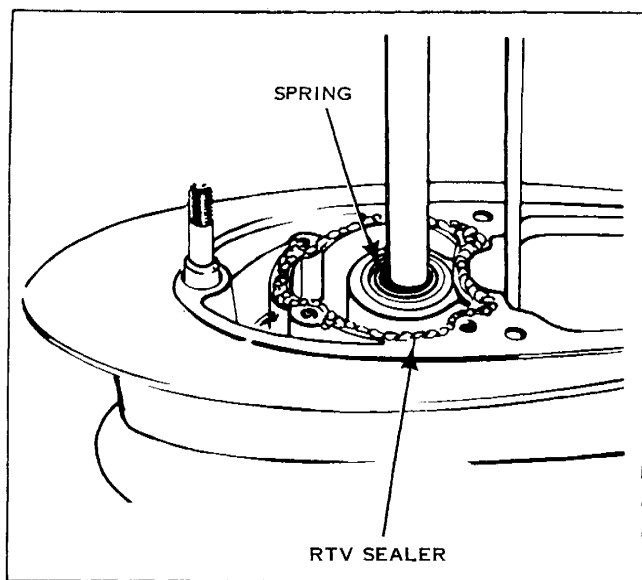

FIGURE 5
9. Visually inspect driveshaft seal in gearcase to make sure spring is in place on seal. See Figure 5.